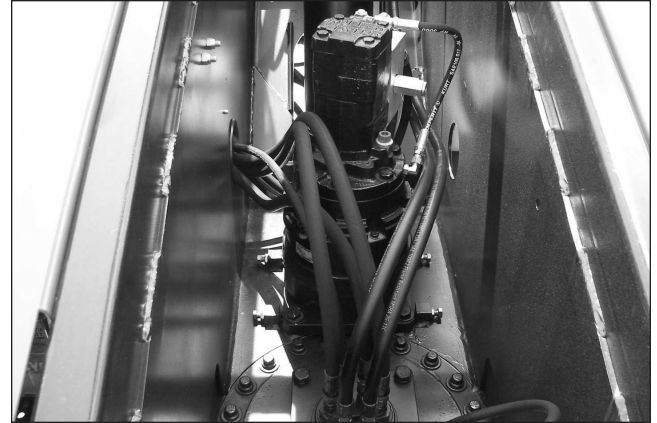

Figure 7.10 – Hoses, Tubes, and Fittings
1. Inspect all hydraulic hoses, tubes, and fittings for wear, leakage, or damage (refer to Figure 7.10).